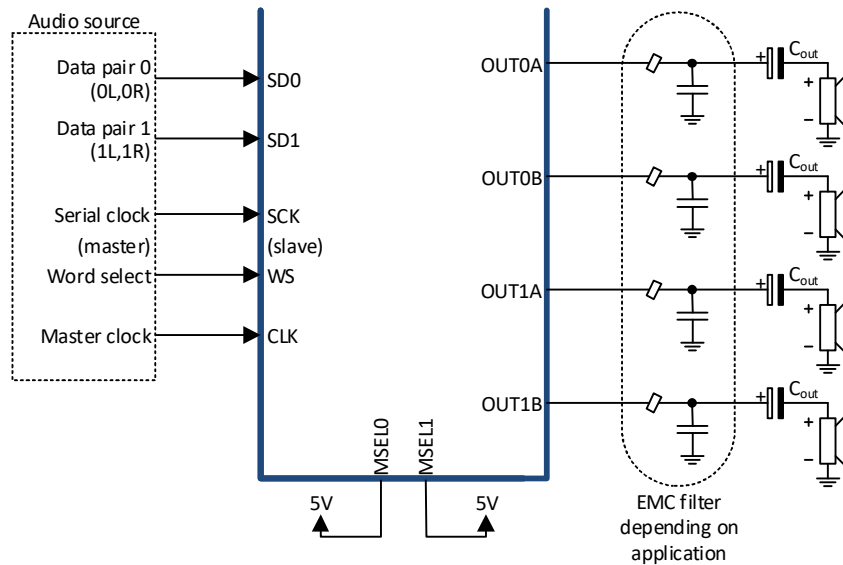

Figure 9-2 Four channel, single ended (SE) configuration.
In single ended (SE) configuration, the MA12070P is able to drive one loudspeaker per output power stage, i.e. up to four loudspeakers. The output is biased to half the power supply voltage, $\frac{1}{2} PVDD$. One of the solutions to drive a speaker in this configuration is to use AC-coupling capacitors (C_{out}) in series with the load, as shown in Figure 9-2. The value of the capacitors depends on the load resistance and the desired audio bandwidth.